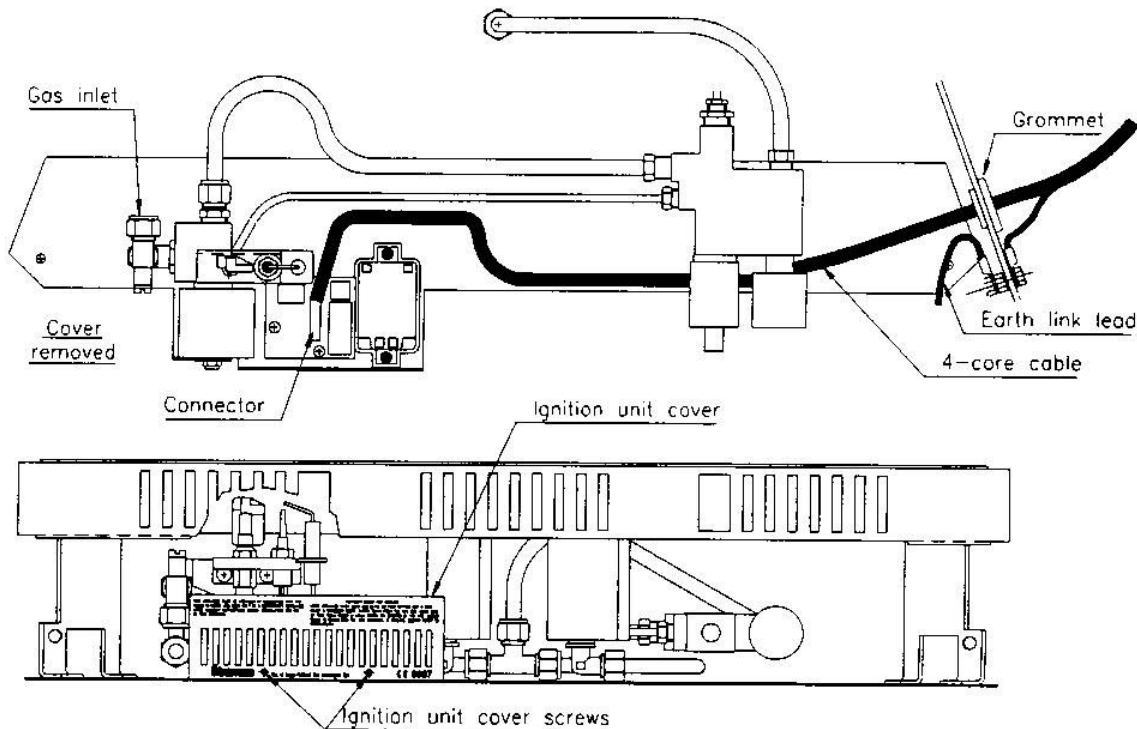

Fig. 14 Burner & ignition unit
1. Connect the earth link lead from the burner to the earth bolt in the firebox side as shown in Fig. 14.
4. Remove the ignition unit cover beneath the burner (see Fig. 14). Route the 4-core cable as shown and plug into the printed circuit board. Fit the cable grommet into the hole in the side of the fire and replace the cover. Do not allow the cable to loop up under the burner.